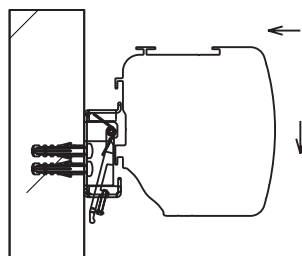

Figure 3
2. Now lift the screen housing with two people and insert it carefully into the mounting bracket. Make sure that the housing engages in the hooks of the mounting brackets. Now slide the housing slowly downwards. The screen should click into place with a click sound. (see Fig.3)